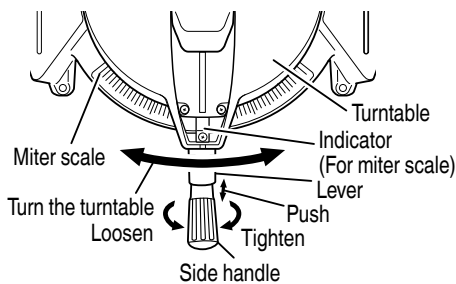

Fig. 25
- (1) Loosen the side handle and push the lever for angle stoppers. Then, adjust the turntable until the indicator aligns with desired setting on the miter scale (Fig. 25).
- (2) Re-tighten the side handle to secure the turntable in the desired position.